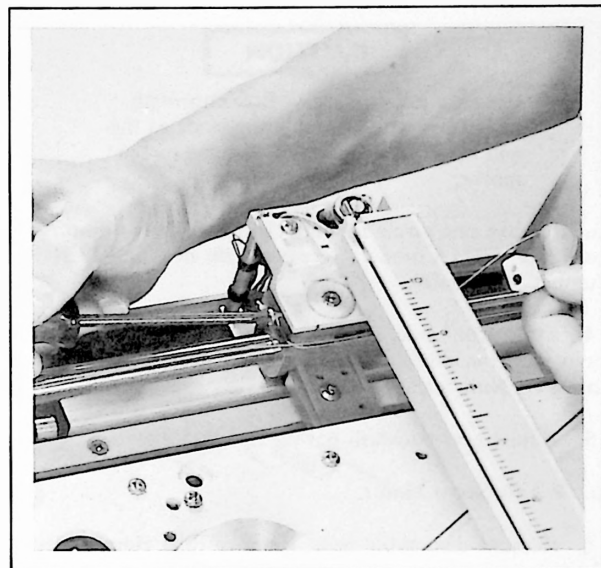

Figure 5-7. X-Axis Stringing Removal
- b. Loosen X-axis stringing by loosening screw on slider block. See Figure 5-7. Remove stringing from drive gear. Use masking tape to hold string in place.